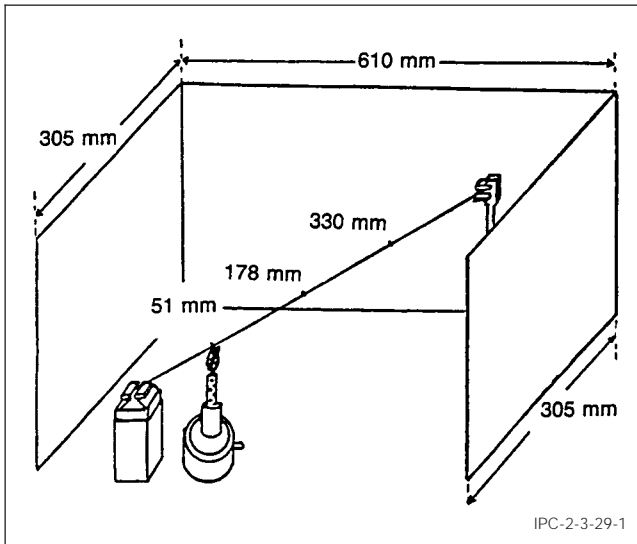

Figure 1 Flame Applied to Underside of Cable
4.1 Test chamber of sheet metal 610 mm with 305 mm sides, open at the top and front to permit a flow of draft-free air, sufficient for complete combustion, and provided with the means for supporting the test specimen in a position that is a 45° angle from the horizontal (see Figure 1)
5.1.1 Hold a single, full-width strip of cable at a 45° angle from the horizontal, with the flat side down, and the flame applied to the underside of the cable (see Figure 1).